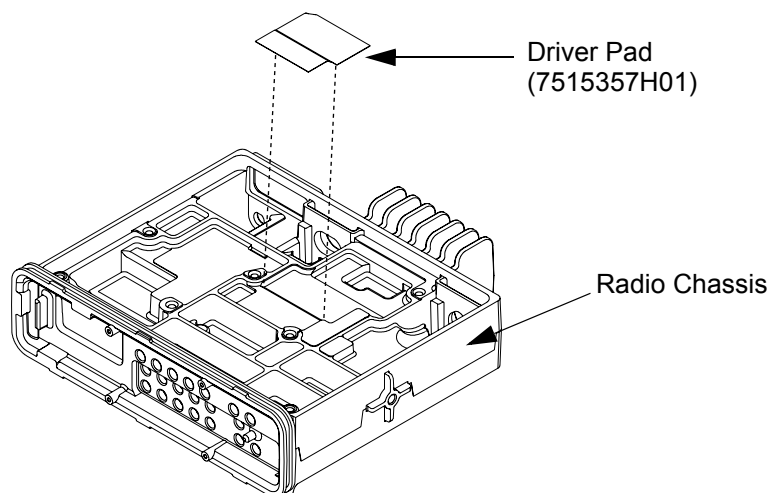

Figure 5-59 Aligning Driver Pad on Chassis
3. Once the surface is clean and dry, remove the new pad from the shipping liner, and place the pad on to the chassis, aligning the edges of the pad with the edges of the chassis, as shown in Figure 5-59.